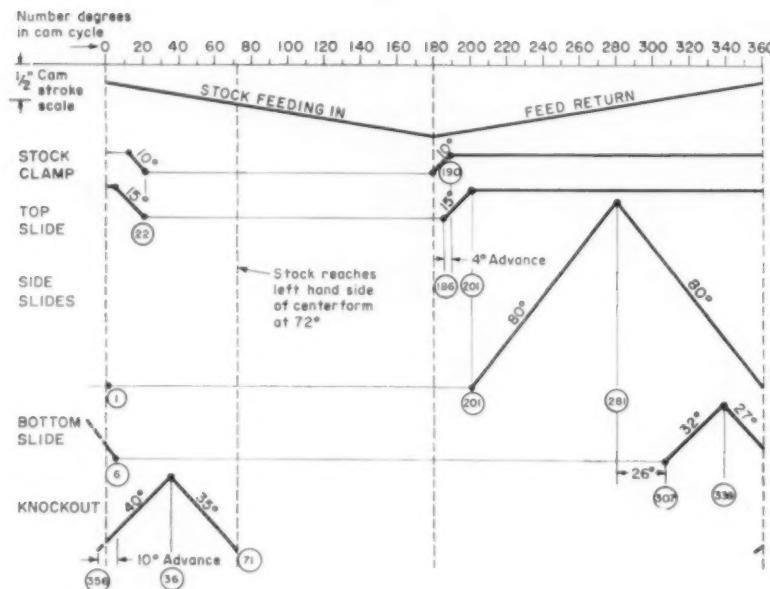

Fig. 5. Initial layout for cam chart. This does not fit cycle time.
Step 3—Initial Cam Layout: The initial cam chart layout in Fig. 5 is made on a sheet scaled horizontally for the 360 degrees in a full cam cycle. All the cam cycle angles in this chart have been obtained from adjusted values in Fig. 4. Although not entirely necessary, a uniform vertical cam-stroke scale has also been used in order to show the relative magnitude of the full strokes for all the slides. The 180-degree cycles for stock feeding in and feed return are indicated at the top. Beginning with forward motion of the stock clamp at 180 degrees, after the stock feed has been completed, the motion of each slide is drawn in sequence on separate lines on the cam-cycle scale.